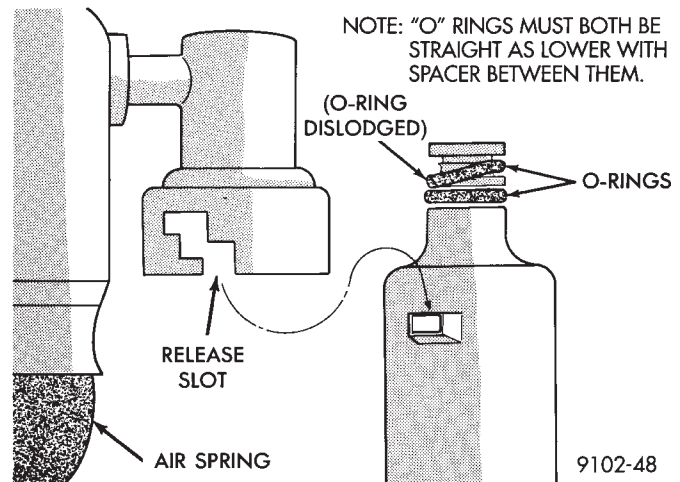

Fig. 16 Remove Solenoid (Inspect O Ring)
(5) Rotate solenoid to release slot and remove (Fig. 16).
(1) Inspect O-Ring condition and position on solenoid stem. (O-Ring can become dislodged during removal (Fig. 16).
(2) Install solenoid with tangs to top ledge of housing and install retaining clip.
(3) Reconnect air line and electrical connection.